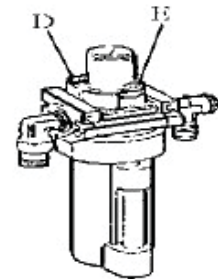

Fig 9
- Unscrew with hex wrench (E). Based on connection of compressed air, first to tread Jaws open and close Pedal or Turntable Rotation Pedal 5-6 times, and then check whether oil in Oil Fog Maker drops down a drip of oil. For continuous operation, tread twice every time, drop down a drip of oil, and otherwise adjust the screw (D) that controlled oil -enter with minus screwdriver. (Fig 9)